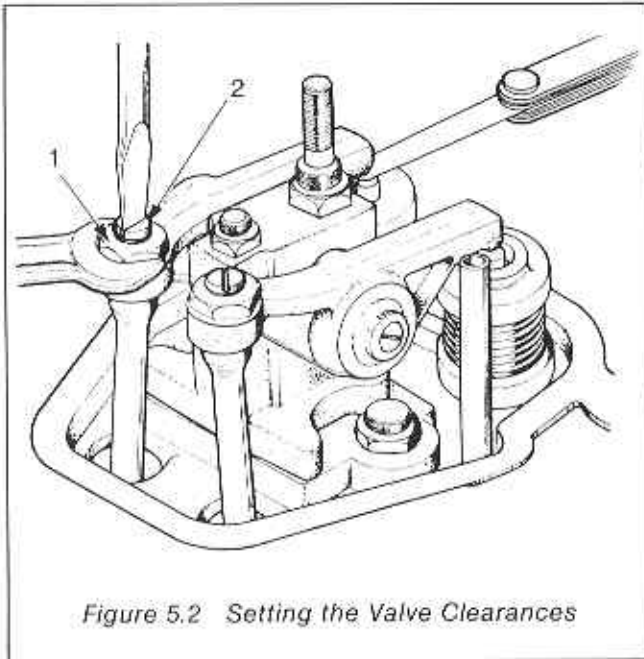

Figure 5.2 Setting the Valve Clearances
- (9) Remove the push rod cover.
- (10) Gradually slacken the cylinder head self-locking retaining nuts diagonally in sequence as shown in Figure 5.2.
- (11) Remove the nuts and lift off the cylinder head.
Valve Rockers Adjustment (Figure 5.2)